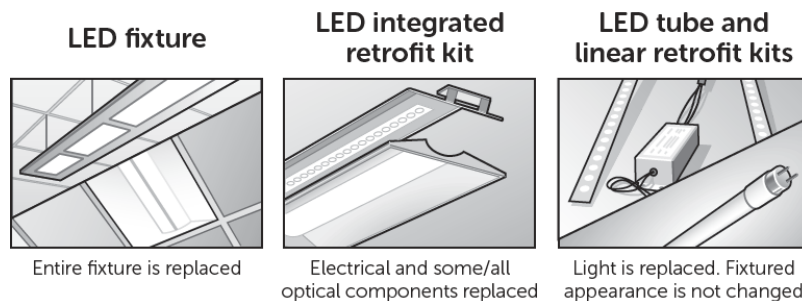

Figure 4: LED upgrade options for fluorescent lighting.
Linear fluorescent fixtures can be upgraded to LED through one of three possible solutions: (1) the entire fluorescent fixture can be replaced with a complete LED fixture; (2) the internal electrical and optical components of the fluorescent fixture can be upgraded to LED using an integrated retrofit kit; or (3) the fluorescent lamps can be replaced with LED lamps or linear retrofit kits. Each of these upgrade options are shown below in Figure 4.